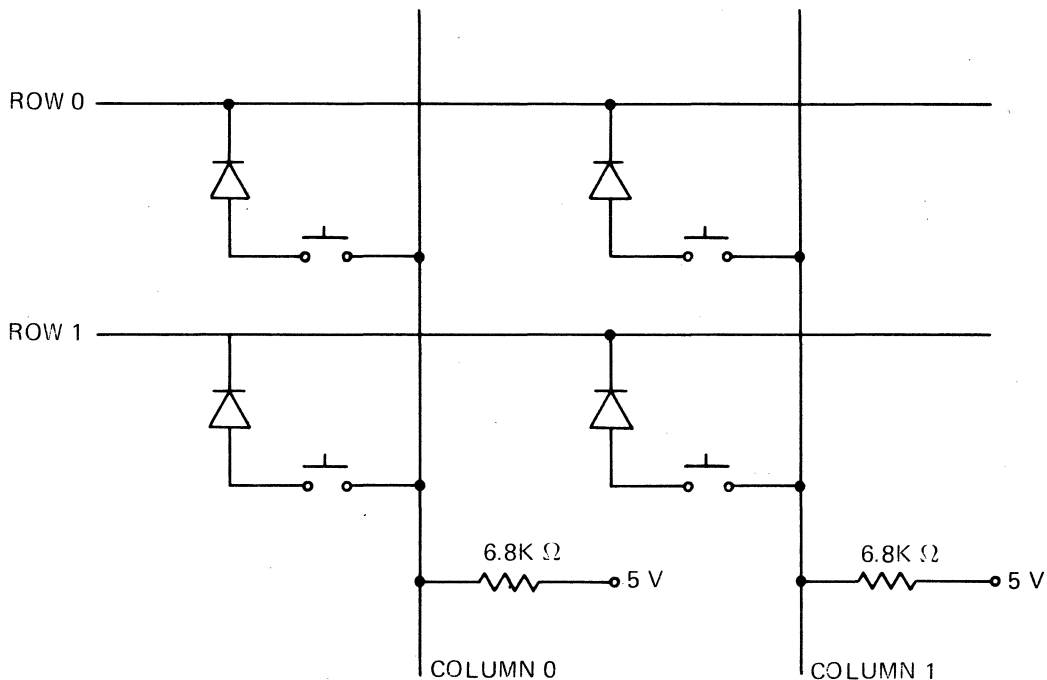

Figure 4-6. Keyboard Matrix Simplified Diagram
4.4.2 KEYBOARD MATRIX. The keyboard matrix encodes key/switch actuation information to be read by the terminal controller. The matrix consists of twelve rows and eight columns that are part of the PWB (drawing 999822, sheet 2). The rows are enabled (low) one at a time by the terminal controller. When a key connected to an enabled row is actuated, current flows through the 6.8K ohm pull-up resistor, through the key/switch, through the diode, and into the enabled row (see Figure 4-6). While the current is flowing, the column output will be low.